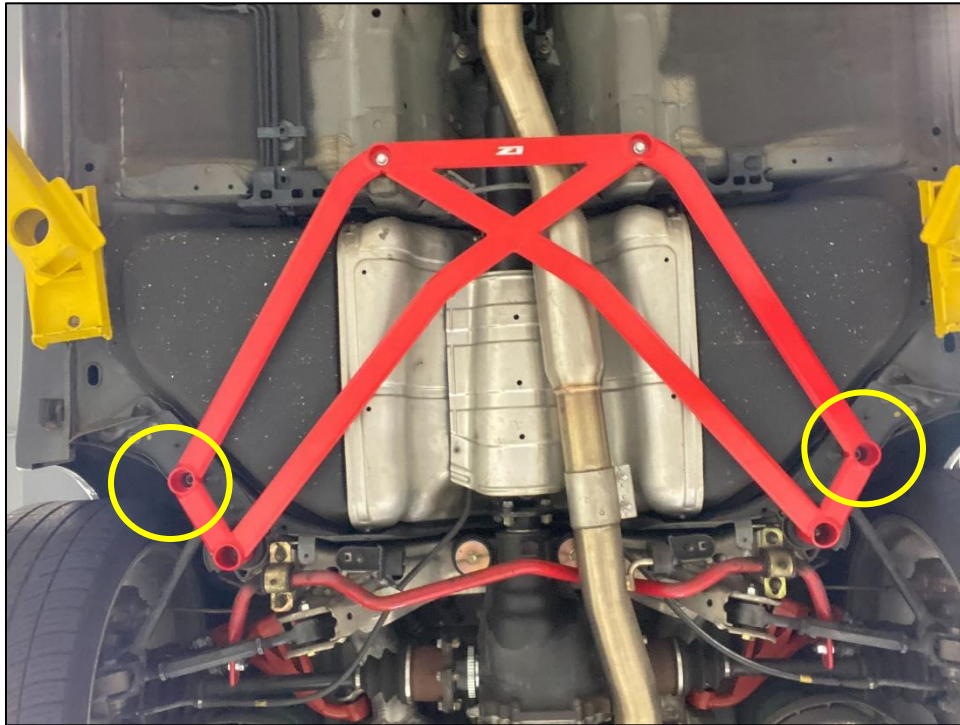

Figure 5
7. Install the (2) two M10 x 1.25 Nuts on the Threaded Studs. *Figure 5.*